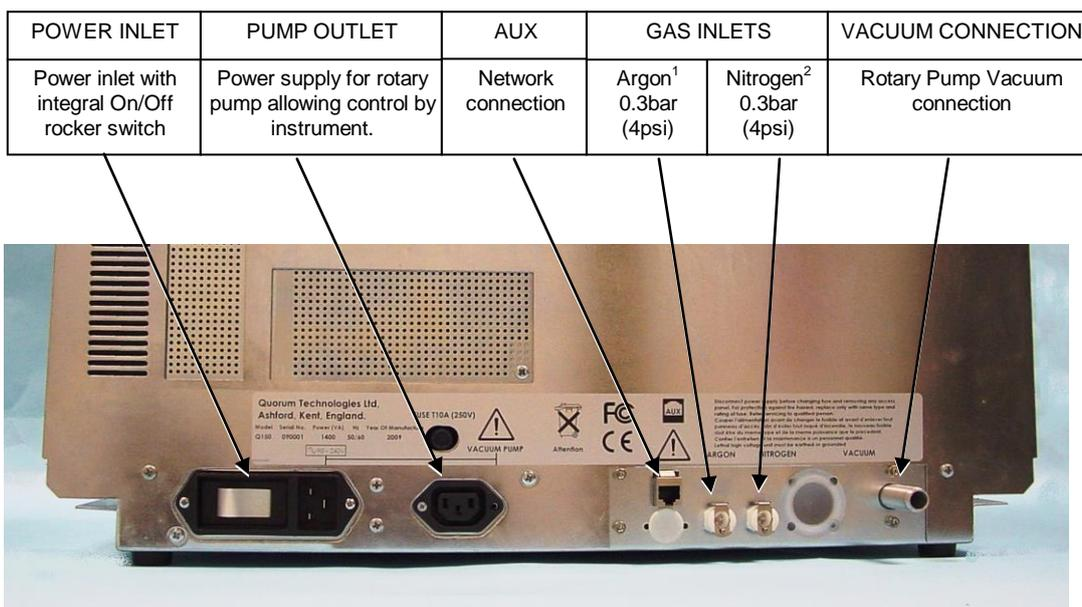

Figure 2-1. Q150T Rear Panel
Figure 2-1 shows the location of connectors and switches on the rear panel of the Q150T.
1. Connect a suitable argon supply at a regulated input of 0.3bar (4psi) to the quick connect *Argon* gas connector on the rear panel (see **Figure 2-1**). If you prefer, you can use argon for both process and purge supplies. To do so, install a 'T' piece across both gas inlets.